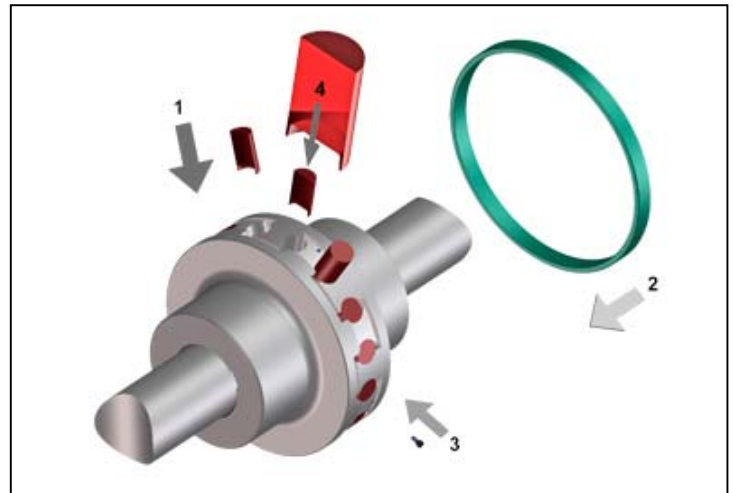

Fig. 10
- At first remove the cheese head screws (pos. 3) and then the retaining ring (pos. 2).
- Mount new buffers of correct size with the hollow pointing inwards (see Fig. 10, pos. 4).